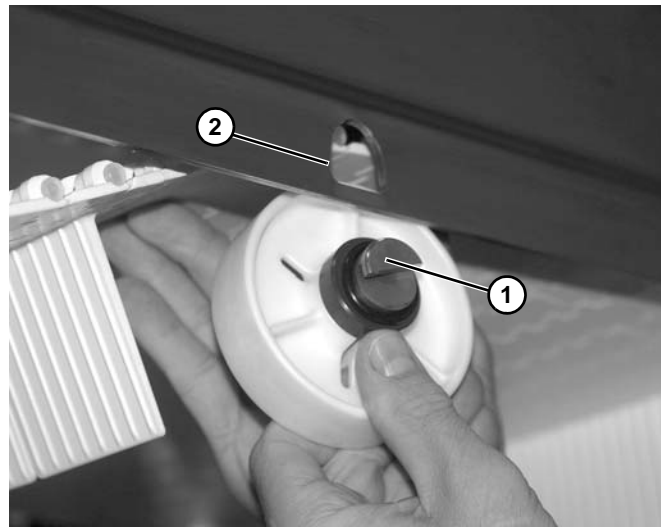

Figure 86
1. Remove the notched end of the return shaft (Figure 86, item 1) from the small hole (Figure 86, item 2) in the inside of the conveyor frame.